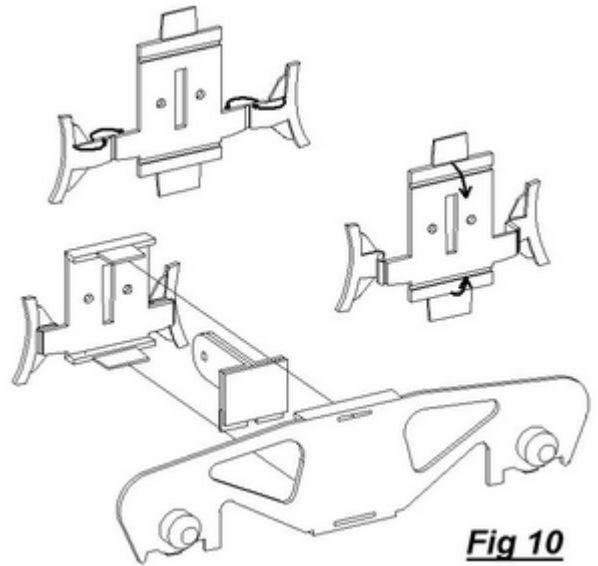

Fig 10
Remove the Slide and rocking plates (5) from the etched sheet. Fold the brake shoes back ( $2 \times 180^\circ$ ) on themselves as a Z format (Fig 10), check the alignment, and compress with pliers. Apply flux and solder sparingly to the edge of the brake shoe fold laminate. It is important that you keep the inner and outer sliding shoe faces of the rocking plate free of solder. Polish with a fine emery stick, if necessary, to remove any solder contamination.
Fold the edges with tabs  $90^\circ$  and check the fit in the back of the side frames; the tabs are of differing widths so that they will only fit one way; the wider tab on the slide plate goes into the lower slot of the side frame. Withdraw the slide plate and insert a fulcrum slide from the back, **with the spring channel at the bottom**, next to the wider tab (Fig 10).